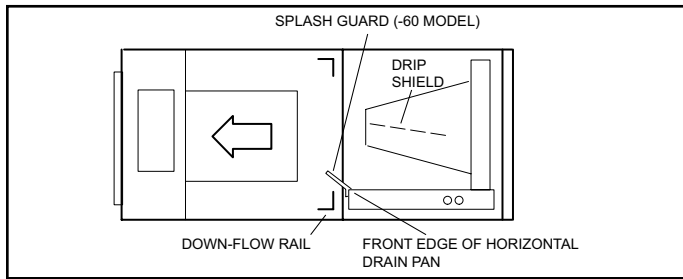

Figure 4. Left-Hand Discharge Configuration
10. Install the splash guard (-060 model) on the front edge of the horizontal drain pan as shown in Figure 4.